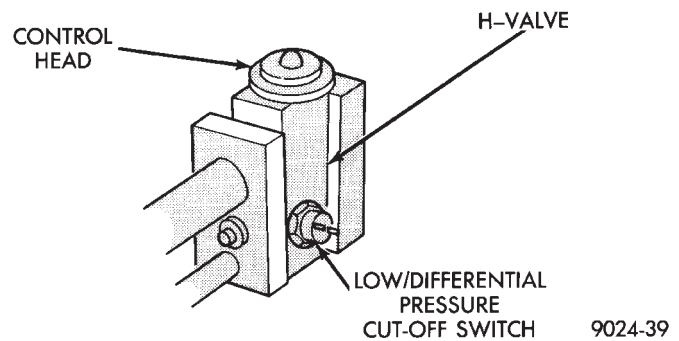

Fig. 8 Expansion Valve
(8) If suction side low pressure is within specified range, freeze the expansion valve control head (Fig. 8) for 30 seconds. Use a super cold substance (liquid CO₂). **Do not spray R-12 Refrigerant on the expansion valve for this test.** Suction side low pressure should drop to -50 kPa (-15 in. Hg) If not, replace expansion valve.
(9) Allow expansion valve to thaw. The low pressure gauge reading should stabilize at 140 kPa to 240 kPa (20 psi to 30 psi). If not, replace expansion valve.